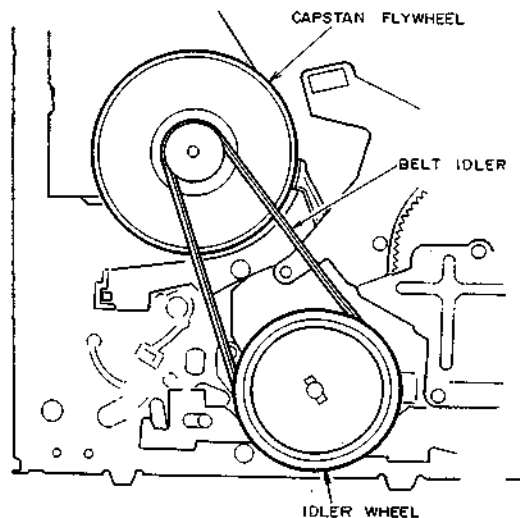

Fig. 4-15
11) Attach the BELT IDLER as shown in Fig. 4-15.